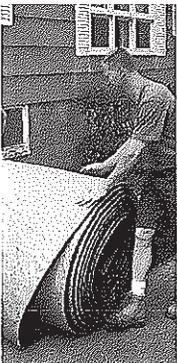

Figure 12
- a. Ensure the flat side of the orifices is facing down and lying flat on top of the geotextile fabric. (Figure 12)